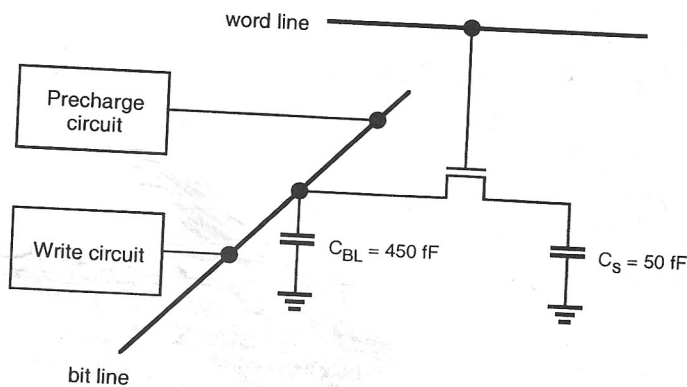

Figure P10.2
10.2 A single-transistor DRAM cell is represented by the circuit diagram in Fig. P10.2. The bit line can be precharged to $V_{DD}/2$ by using a clocked precharge circuit. Also the WRITE circuit is assumed here to bring the potential of the bit line to V_{DD} or 0 V during the WRITE operation with word line at V_{DD} . Using the parameters given: